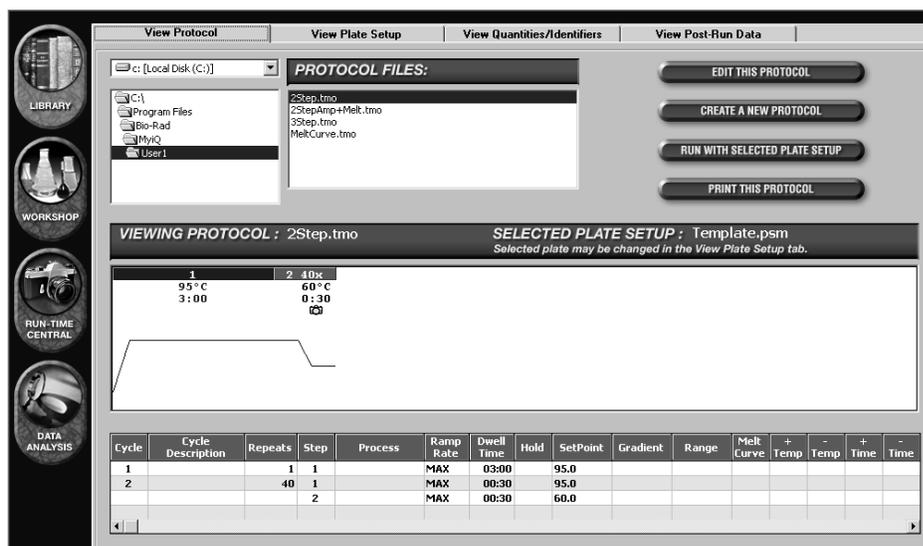

Fig. 4.1. Library / View Protocol Window.
- **View Protocol:** Allows the navigation of stored protocol files. Provides information on the thermal parameters for the specified protocol and indicates when data will be collected and analyzed. Saved protocols may be selected for initiation of a new run, or opened for editing, or a new protocol may be created (see Figure 4.1 and 4.2).
The **View Protocol** window of the **Library** module is the first window that appears when the MyiQ software is opened (see Figure 4.1). In this window, you can navigate the directory of protocol files stored on your computer. When a protocol file name is highlighted in the directory tree, the details of the protocol are displayed in the View Protocol window.
The lower half of the window displays the protocol file identified in the Viewing Protocol field, both graphically and in spreadsheet format (see Figure 4.1). The graphical display shows the reaction temperature (y-axis) as a function of time (x-axis). If you would like to print the graphical display (or copy-and-paste the entire protocol) to another application, such as a word processing program, simply right click on the graphical display and select the desired option. In the graphical display:
The upper part of the **View Plate Setup** window is similar to the upper part of the **View Protocol** window (compare Figures 4.1 and 4.3.) The **View Plate Setup** window displays the following plate setup file information: